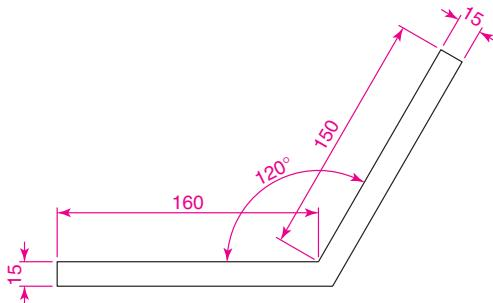

Fig. 17.5 First example – changing UCS planes – pline for extrusion
1. Set **UCSFOLLOW** to 1 (ON).
3. Construct the pline outline Fig. 17.5 and extrude to 120 high.